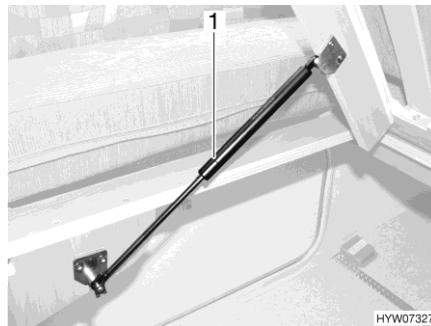

Fig. 91 Fixed bed
- Lift slatted frame. The gas-pressure springs (Fig. 91,1) hold the slatted frame open.